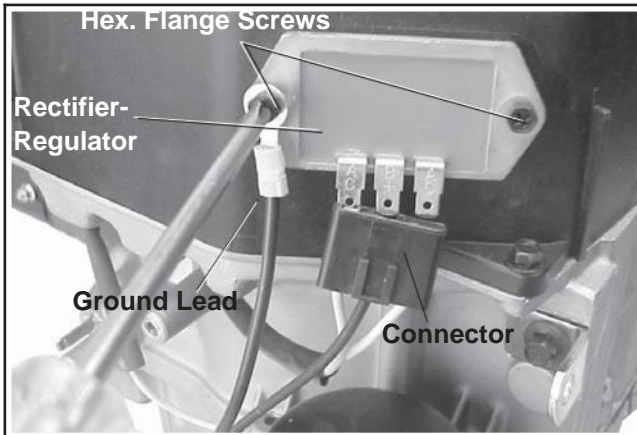

Figure 9-13. Removing Rectifier-Regulator (not on all models).
1. Remove the connector from the rectifier-regulator. See Figure 9-13.